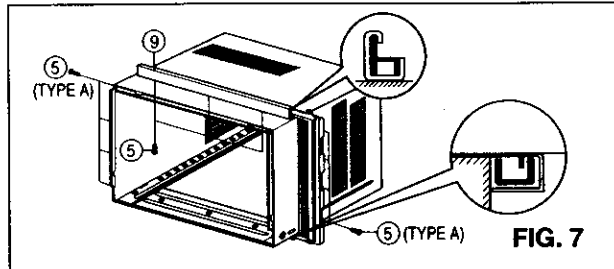

FIG. 7
- 5** Screw the upper guide ⑨ to the top of the cabinet as shown in FIG. 7 using (3) TYPE A screws ⑤. Insert the side curtain ① into the upper guide ⑨ and lower guide of the air conditioner. Fasten the curtains to the unit with (8) TYPE A screws ⑤.